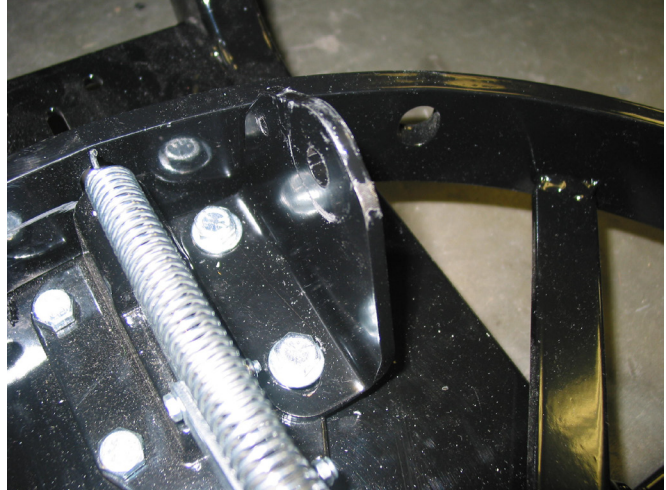

Figure 1
1. This electric plow lift kit has been designed to mount to the Moose bottom or rapid mount (front) style plows. Install supplied mounting bracket in orientation shown on plow base (see Figure 1). Use 3/8-16 capscrews and flange nuts with Moose bottom style plow mount base and use 5/16-18 capscrews, washers and lock nuts with the rapid mount (front) style plow base. Torque 3/8-16 hardware to 30lb. ft. (40.7N-m) or 5/16-18 hardware to 17lb. ft. (22.5N-m).